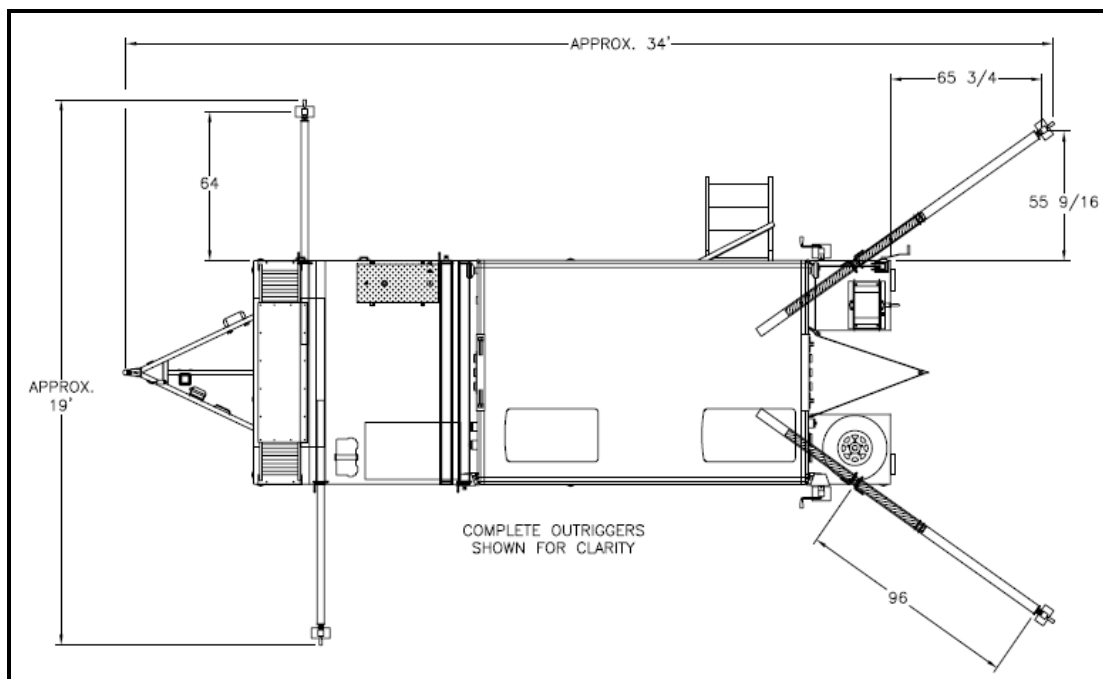

Fig. 4 Dimensions with Outriggers Fully Extended
1. Locate the trailer tower unit in a place that will allow a minimum clearance of 19 ft. wide by 34 ft. long to allow for full extension of the outrigger assemblies (*see Fig. 4*).